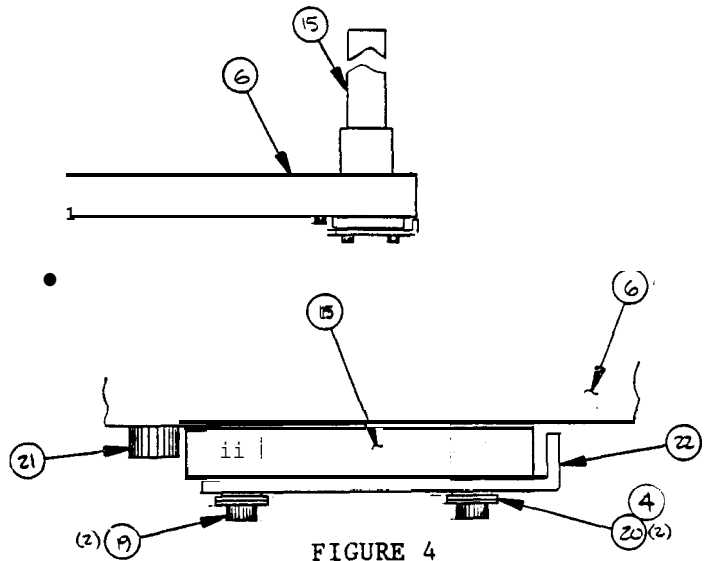

FIGURE 4
3. Apply grease to the unpainted bearing surfaces of the tube collar and flange, and place the Collar Block in proper position over the collar and swivel plate as shown in Figure 4.
4. Using Item 19, 20, and 22, mount the Rotational Stop to the bottom end of the Tube, as shown in Figure 4.
5. Insert the Stop Bolt Item 21 into the Collar Block item 6 as shown in Figure 4.